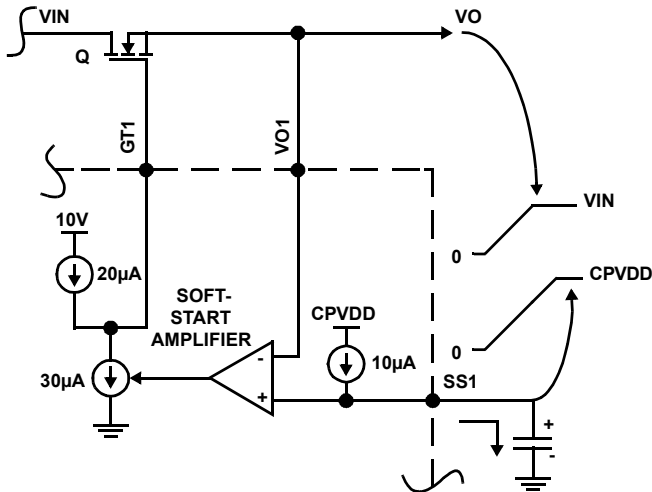

FIGURE 14. SOFT-START OPERATION
The output voltages are monitored through the Vo pins and slew up at a rate determined by the capacitors on the Soft-start (SS) pin, as illustrated in Figure 14. 20µA of gate charge current is available. The soft-start amplifier controls the output voltage by robbing some of the gate charge current thus slowing down the MOSFET enhancement. When the load voltage reaches its set level, as sensed by its respective UV_{pin} through an external resistor divider, the Power Good (PG) output goes active, signaling that the output voltage has reached its set limit.